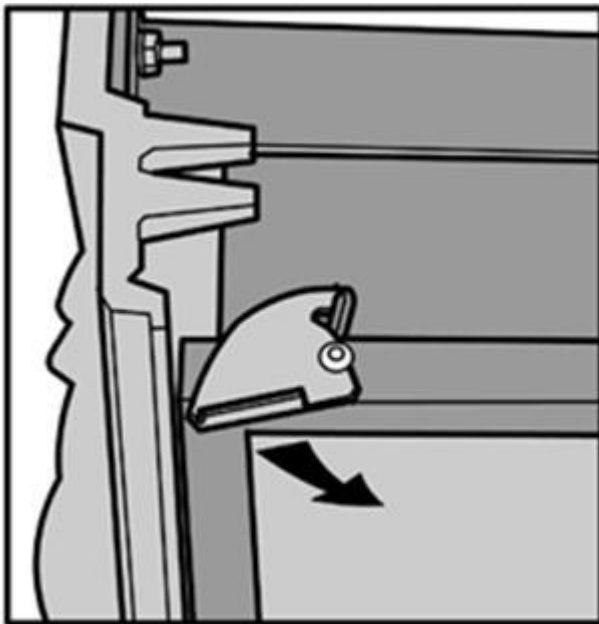

Fig 13. Swivel the latches to release the glass frame
- Swing open the swiveling latches at the top left and right corners of the glass frame. (Fig. 13)